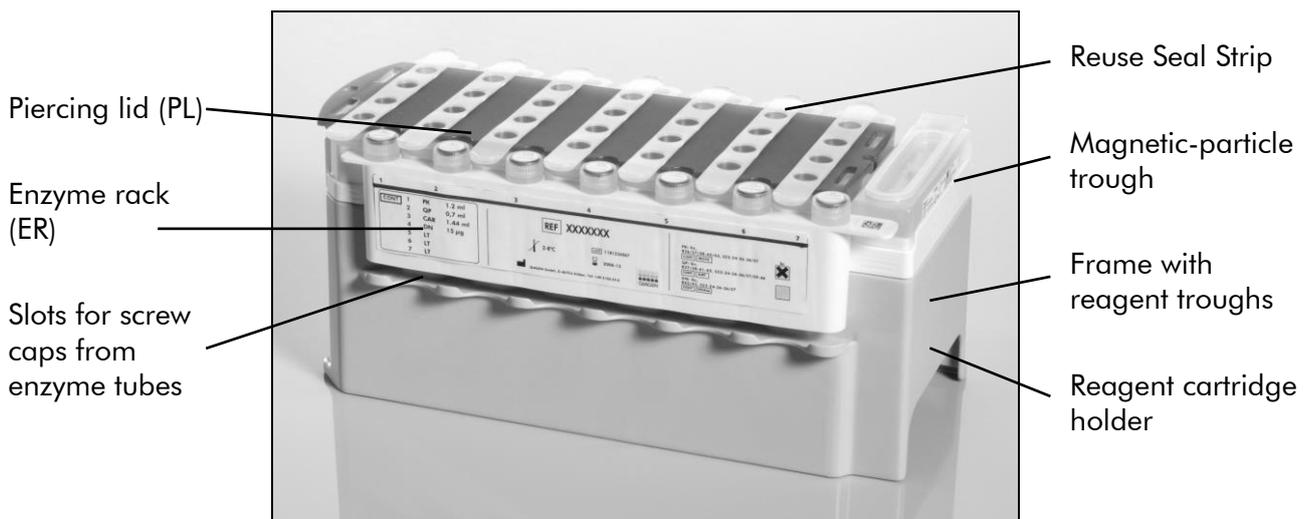

Figure 2. QIASymphony reagent cartridge (RC). The reagent cartridge (RC) contains all reagents required for the protocol run.
Reagents for purification of DNA are contained in an innovative reagent cartridge (RC) (see Figure 2). Each trough of the reagent cartridge (RC) contains a particular reagent, such as magnetic particles, lysis buffer, wash buffer, or elution buffer. Partially used reagent cartridges (RC) can be reclosed with Reuse Seal Strips for later reuse, which avoids generation of waste due to leftover reagents at the end of the purification procedure.
After the magnetic-particle trough cover is removed and the enzyme rack tubes are opened (screw caps can be stored in dedicated slots, see Figure 2 above), the reagent cartridge (RC) is subsequently loaded into the “Reagents and Consumables” drawer.